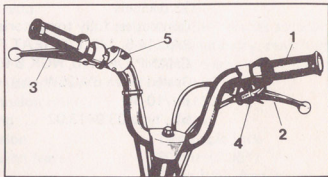
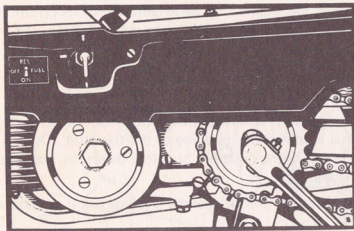

Fig. 2 — Controls
Fig. 5 — Fuel Cock
- a) Throttle twistgrip (1, Fig. 2) by the rotation of which the clutch is engaged or disengaged automatically while the throttle is opened or closed and thus the vehicle accelerates or decelerates;
- b) Front brake lever (2, Fig. 2) and rear brake lever (3, Fig. 2), by the depressing of which the vehicle is braked and stopped;
- c) Decompressor lever (4, Fig. 2), by the operation of which the engine is stopped or its starting facilitated;
- g) Fuel cock lever (Fig. 5);
If it is necessary to apply the brakes, release the twist grip and operate the brake levers (2, 3, Fig. 2). Proceed in the same way when stopping the machine. The clutch disengages as a result of the dropping r.p.m. and the engine idles. When riding on, the clutch operates again after opening the throttle. After having finished the trip, stop the engine by depressing the decompressor lever (4, Fig. 2) and shut off the fuel supply by turning the lever of the fuel cock (Fig. 5).